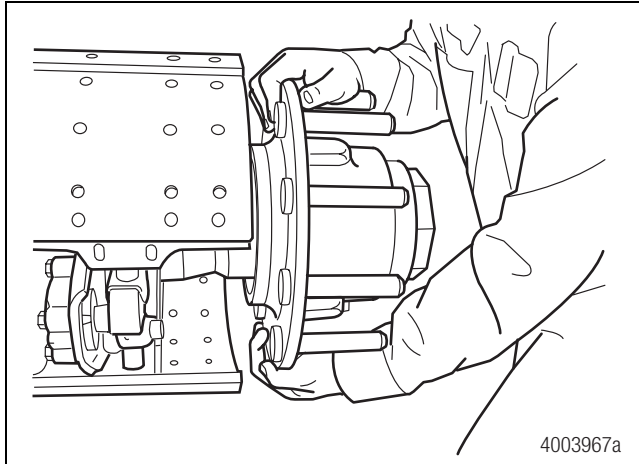

Figure 2.6
- If the tires are not installed, push and pull on opposite sides of the hub flange and examine the wheel end for movement. Figure 2.6.